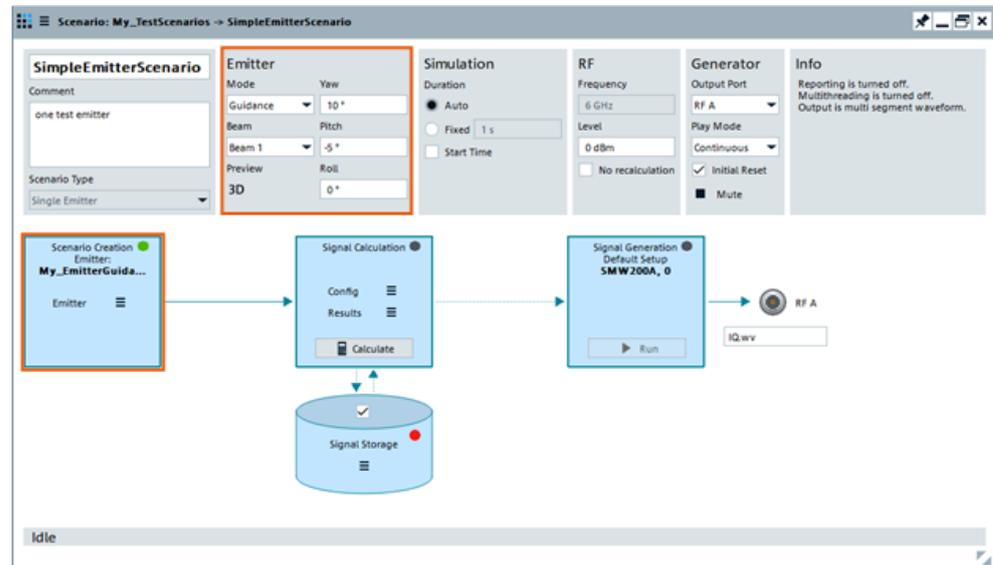

Figure 10-5: Single emitter scenario settings
3. To "move" the receiver on the x-axis and on the z-axis, use "Emitter" settings > "Pitch" and "Yaw" (see Figure 10-5). The position on the y-axis (the distance to the emitter) is a fixed value.